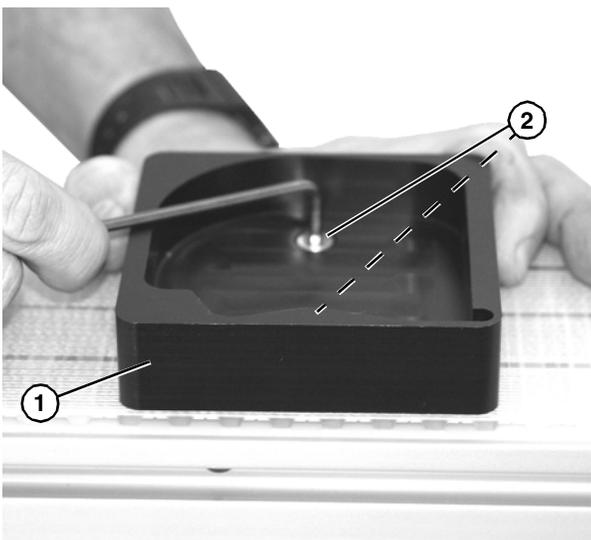

**Figure 15**
2. Install inserts (**Figure 15, item 1**) from underside of belt.